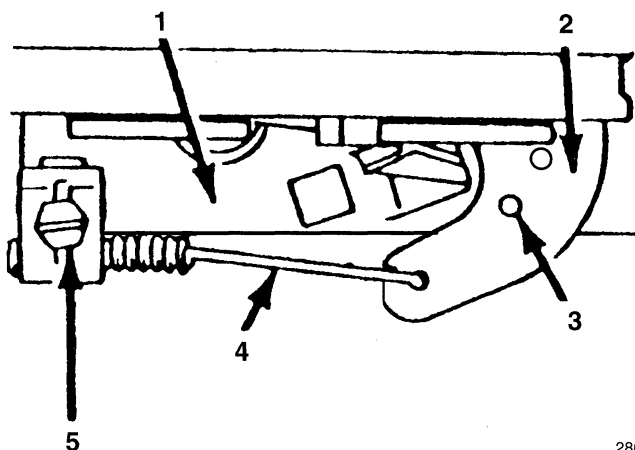

Figure 19
3. Loosen cable clamp screw until throttle cable slides (Fig. 19).
4. Move throttle cable left or right until holes in throttle lever and throttle bracket align (Fig. 19).